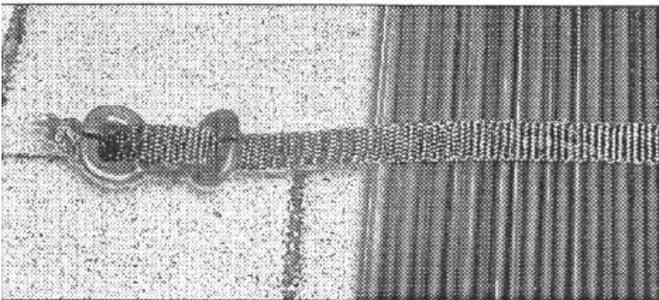

FIGURE 10
8. Slip one end of a hold-down strap through the slots in the strap hold-down bracket at the end of the row. Pull about 9" of the strap through and slip the loose end of the strap through the slot closer to the collector and pull it tight and tie a double knot. Refer to Figure 10.
10. Secure opposite end of strap as shown in Figure 10